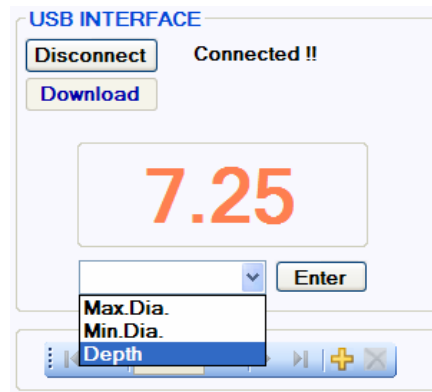

Figure 2.7
4. Move the cursor to the drop-down menu. A list of dimensions corresponding to the shape selected will be displayed. Please refer to Figure 2.7. Select the dimension which corresponds to the placement of the gemstone in (3) and press “Enter” to confirm.